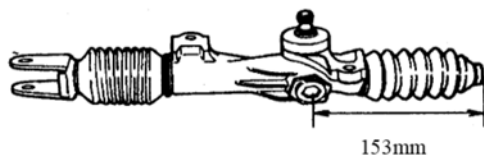

Fig.3.6-7
- 2) Rotate the gear shaft to adjust the length of the pinion to reach the indicated value in Fig.3.6-7, set the steering pinion at the straight driving position.